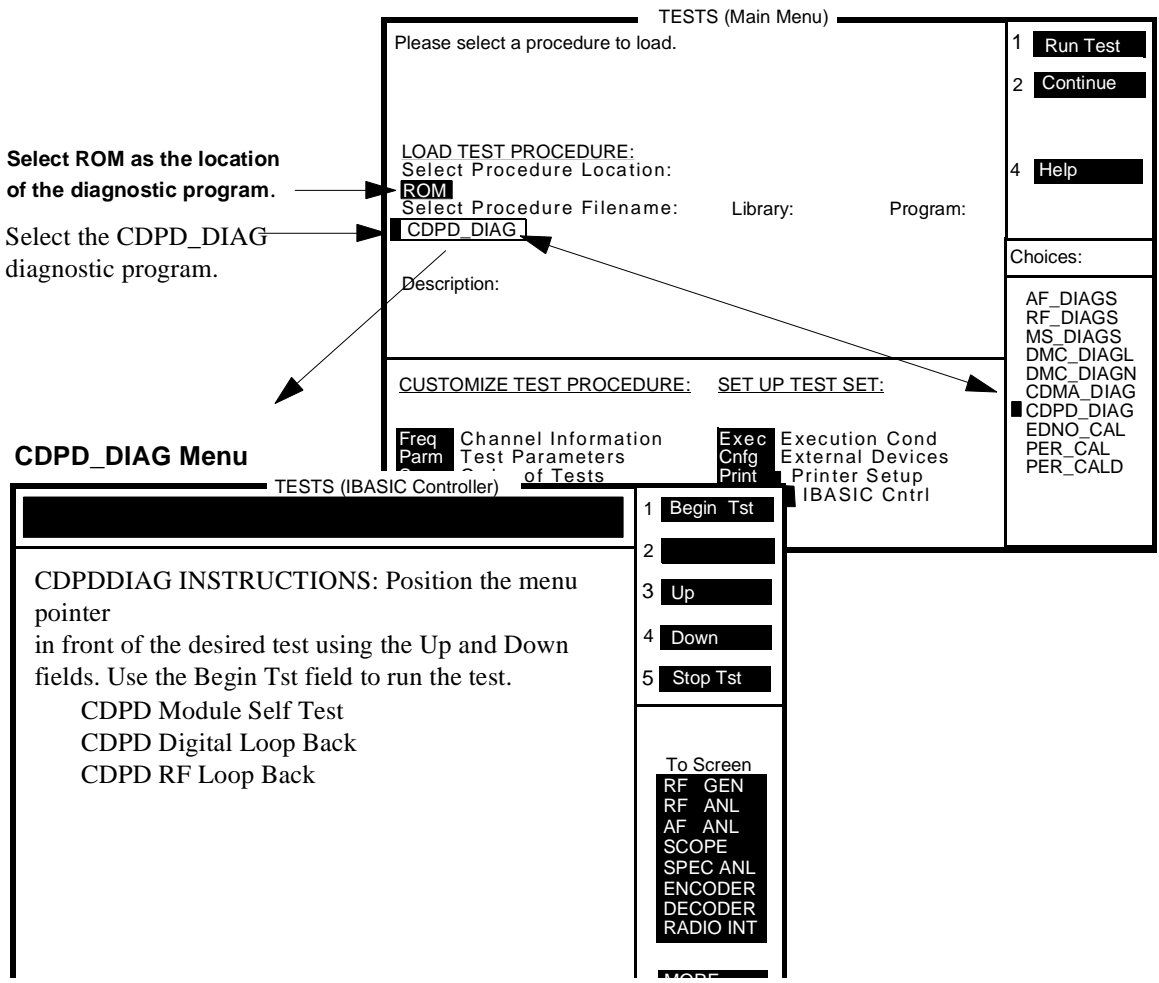

Figure 14 CDPD_DIAG Diagnostic Program
1. Press the TESTS key. The TESTS (Main Menu) appears, see figure 14 on page 66.
2. Select **ROM** for the procedure location, and then select **CDPD_DIAG** from the **Choices:** menu for the procedure filename. See figure 14 on page 66.
3. Run the CDPD_DIAG program, press k1 (**Run Test**). The CDPD test options appear, see figure 14 on page 66.
5. Select **Digital Loop Back**, see figure 14, and then press k1 (**Begin Tst**).
6. Select **CDPD RF Loop Back**, see figure 14, and then press k1 (**Begin Tst**).